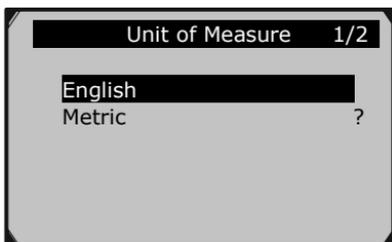

Figure 3.6
2. From **Unit of Measure** screen, use the **Up/Down** scroll button to select the desired unit of measurement. **(See Figure 3.6)**